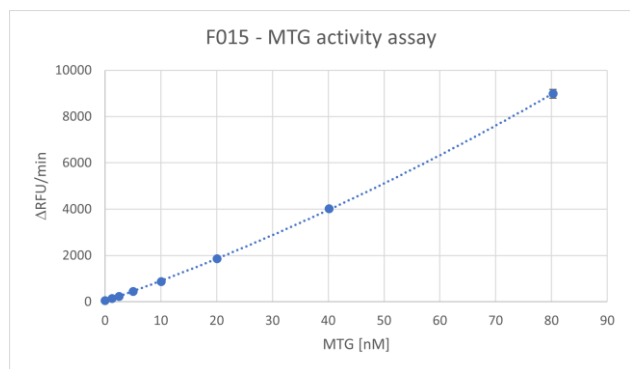

Fig. 1a
The increase in fluorescence is proportional (2nd polynomial fit) to the MICROBIAL TRANSGLUTAMINASE (MTG) activity. The results can be evaluated using a reference curve. The data can be compared to figures 1a-c showing typical plots.
Fig. 1a-c: Reference curves for recombinant microbial Transglutaminase (MTG), REFERENCE LOT 2921aT001 (38.3 kDa, specific activity: 32.5 U/mg, 145.8 U/mL dissolved in H₂O according to the CoA (3). (One unit will catalyse the formation of 1 µmol of hydroxamate per min from Z-Gln-Gly-OH and hydroxylamine at pH 6.0 at 37°C, Grossowicz et al. (1950))